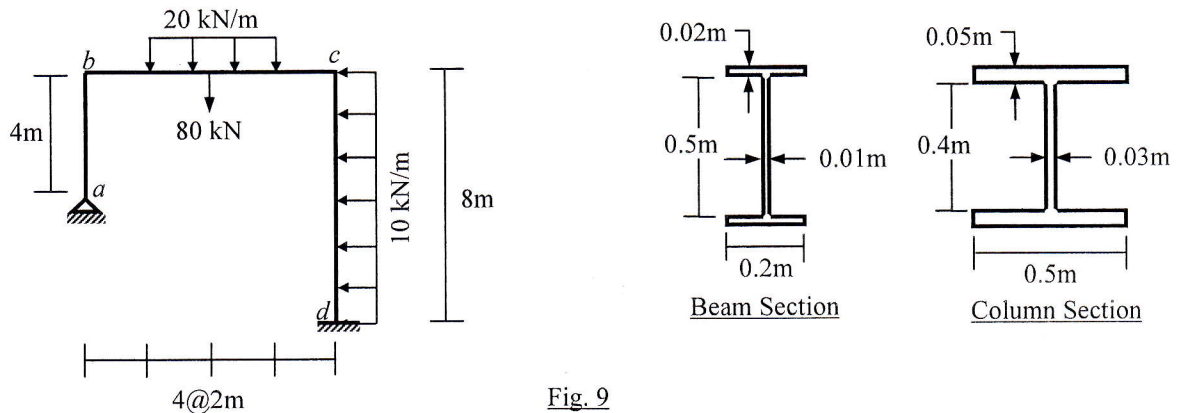

Fig. 9
11. In the frame $abcd$ loaded as shown in Fig. 9, use Energy Method to calculate the